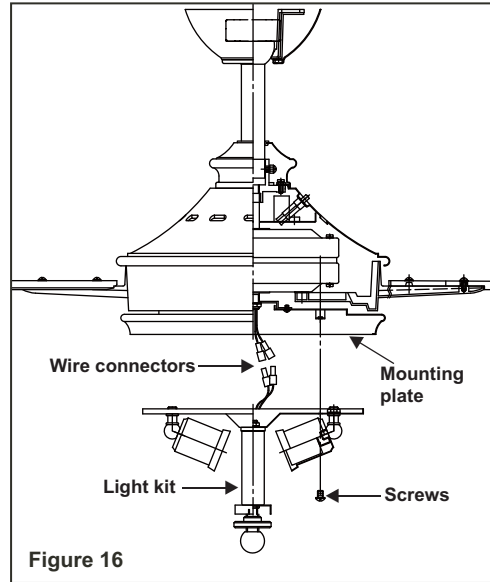

Figure 16
Step 2. While holding the light kit under your fan, make the polarized plug connections: (Fig. 16)
Step 3. Place the key holes in the light kit over the two screws previously loosened from the mounting plate. Turn the light kit until the light kit locks in place at the narrow section of the key holes. (Fig. 16)